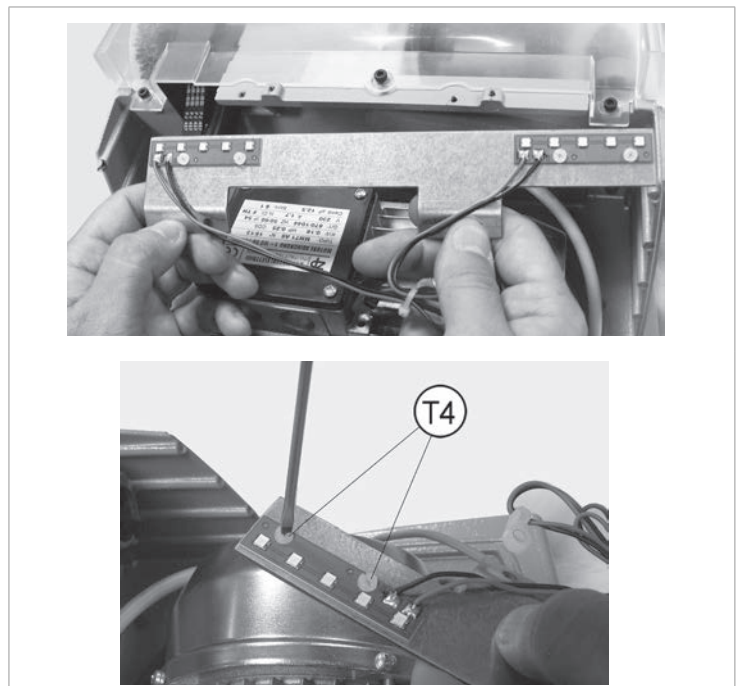

Fig.82
- 5) Loosen the lamp fixing screws (T4) and remove (Fig.82).